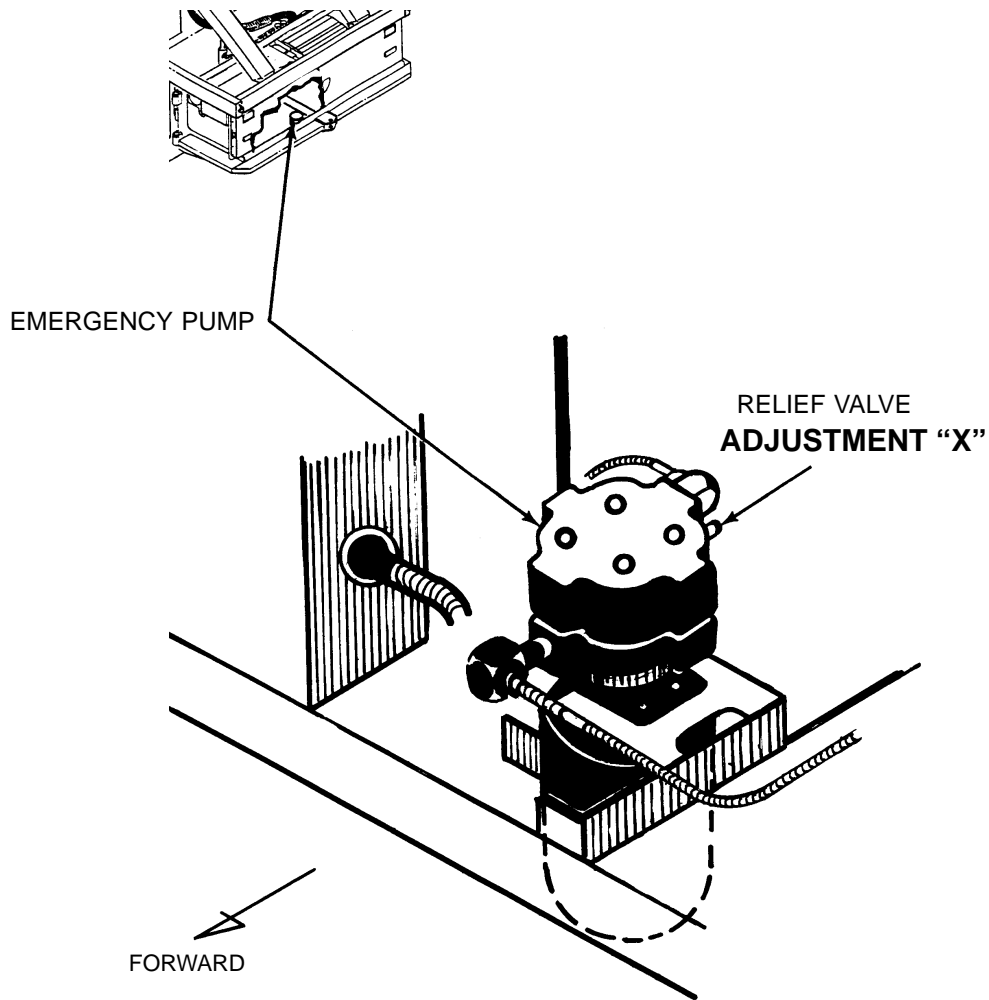

Figure 26
- (1) Remove bolt that secures power unit in the closed position, and swing power unit open to gain access to flow control valves.
- (2) Have assistant start power unit and set MODE SWITCH to OPERATE to extend stabilizers and then actuate bridge tilt switches. Bridge tilt cylinders must extend or retract fully in the specified time of 2-3 seconds.
- (3) To adjust the raise speed (extend cylinders), loosen lock screw on flow control valve in the line connected to the "P" port on valve manifold and turn adjusting screw clockwise to decrease flow (increase time), or counterclockwise to increase flow (decrease time). Tighten lock screw securely after each adjustment.
- (4) To adjust the lower speed (retract cylinder), loosen lock screw on flow control valve in the line connected to the "T" port on valve manifold and turn adjusting screw clockwise to decrease flow (increase time), or counterclockwise to increase flow (decrease time). Tighten lock nut securely after each adjustment.
- (5) Shut down power unit.
- (6) Clean up any hydraulic oil that has leaked.
- (7) Swing power unit closed and secure with retention bolt.
X. Emergency Pump Relief Valve (Figure 26)